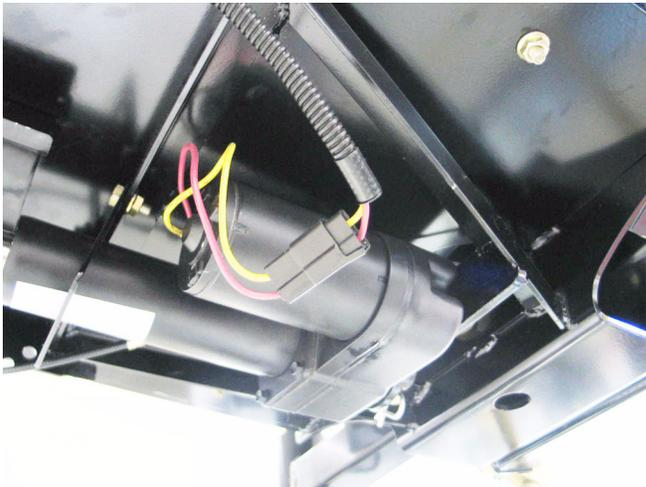

Figure 33.6
33.6. The lift motor extends an actuator to lower the wings, and retracts to raise the wings. See Figure 33.6.